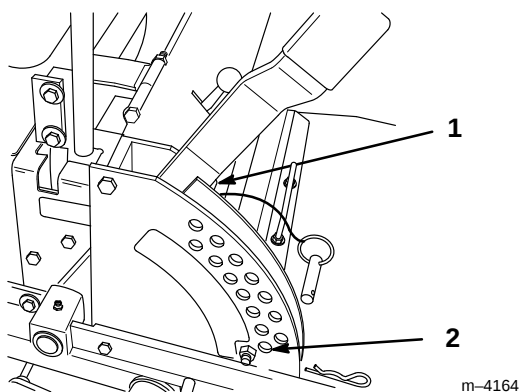

Figure 46
2. Check tire pressure of all four (4) tires. If needed, adjust to 13 psi (90 kPa)
4. Raise the deck to the transport position and take all force off of the two large deck lift springs by loosening nut in front of each spring (Fig. 46).
5. Place two 1-1/2" (38 mm) thick blocks under rear left and right lower edge of mower. Place one 2" (51 mm) block under front center lower edge of mower. Lower mower to the 1-1/2" (38 mm) height-of-cut position (Fig. 46).
1. Raise deck lift lever to the transport position, (Fig. 46).